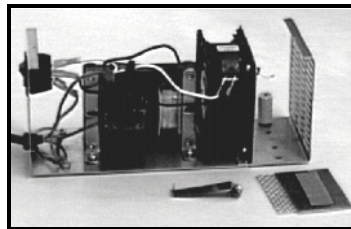

Figure 2
2. Locate and remove the screw from high voltage plate holding clip, then remove holding clip (SEE FIG. 2)
3. Use the edge of the holding clip to gently lift up and remove the stainless steel screen and mica (SEE FIG 2).